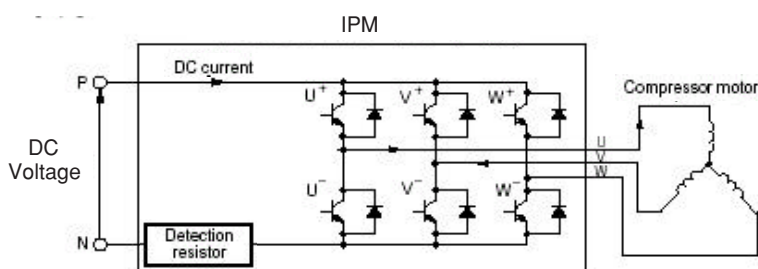

Fig. 6-6
(1) Turns on the power module's U+ and V transistors so the current flows to the motor windings as shown in Fig. 6-6.
(2) Varies the turn-ON time of the W+ transistor according to the DC voltage level and the start is controlled so the start current is approx. 10A .